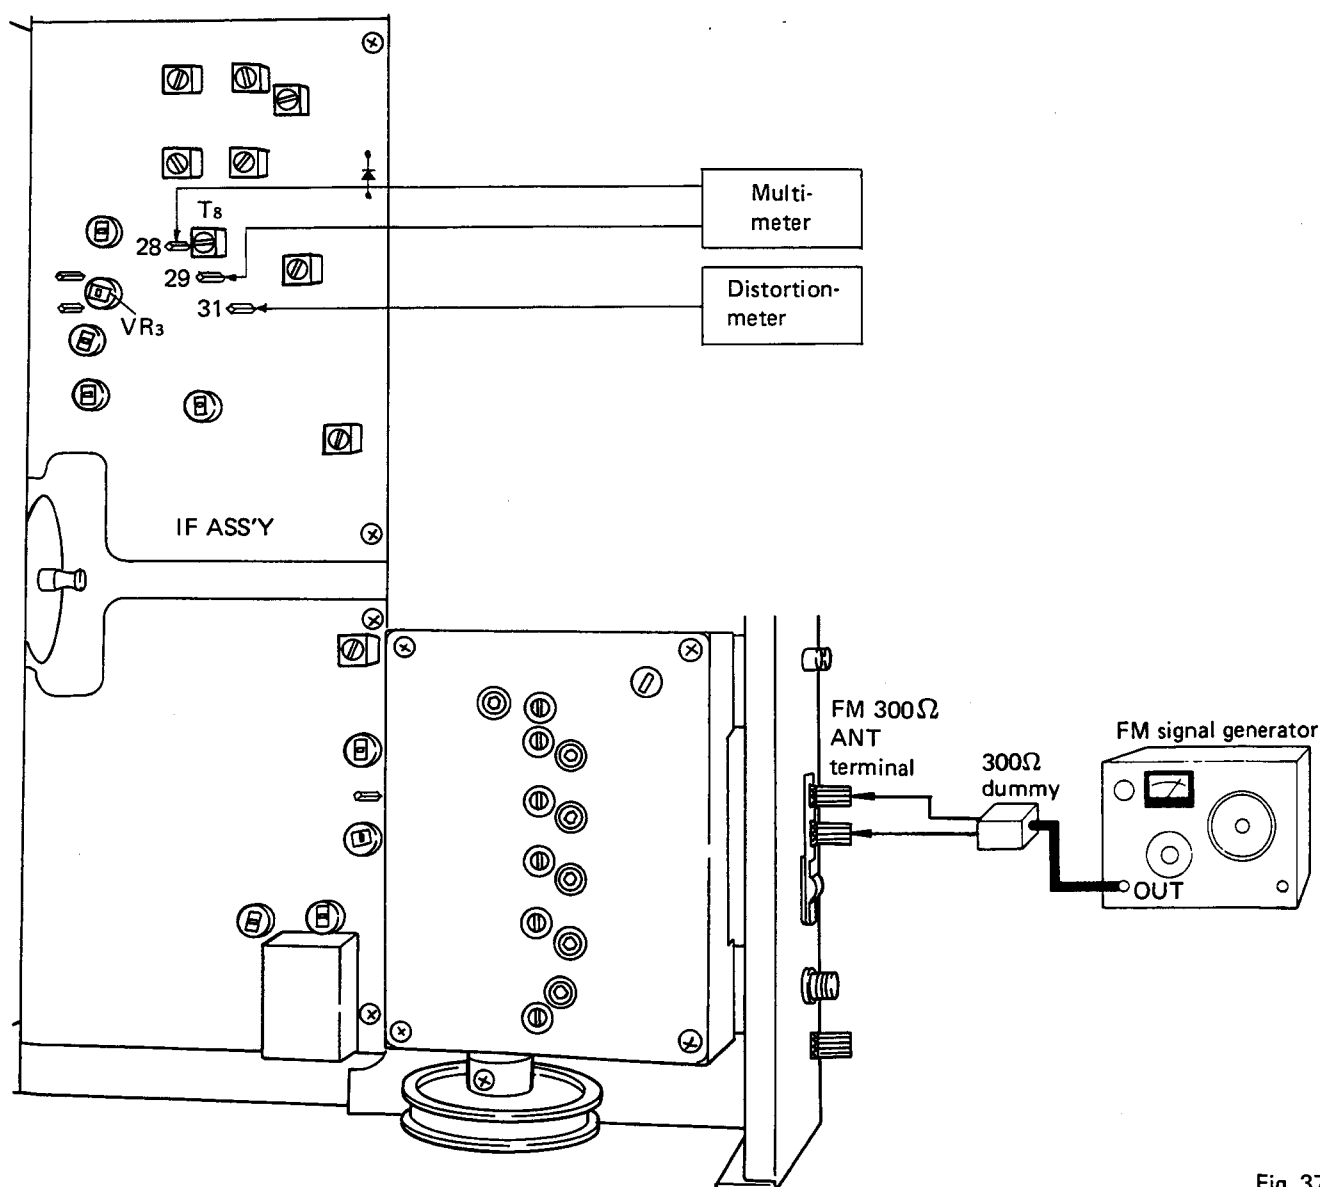

Fig. 37
1. Connect up the various measuring instruments as shown in Fig. 37.